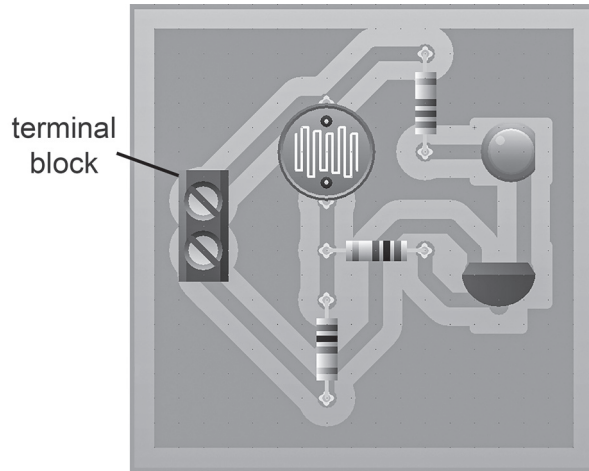

Fig. 12.7
- (ii) Fig. 12.7 shows a printed circuit board (PCB) layout that has been designed using CAD software. The terminal block used to connect the power leads will need strain relief to avoid the leads pulling out.